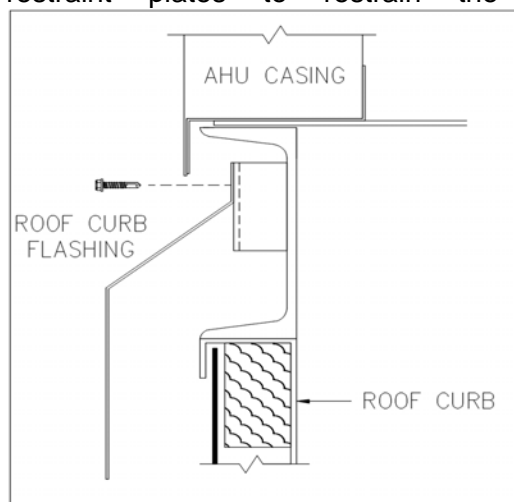

Figure 17: Roof curb flashing cross-section.
8) If roof curb flashing is provided see Figure 17 for installation details.